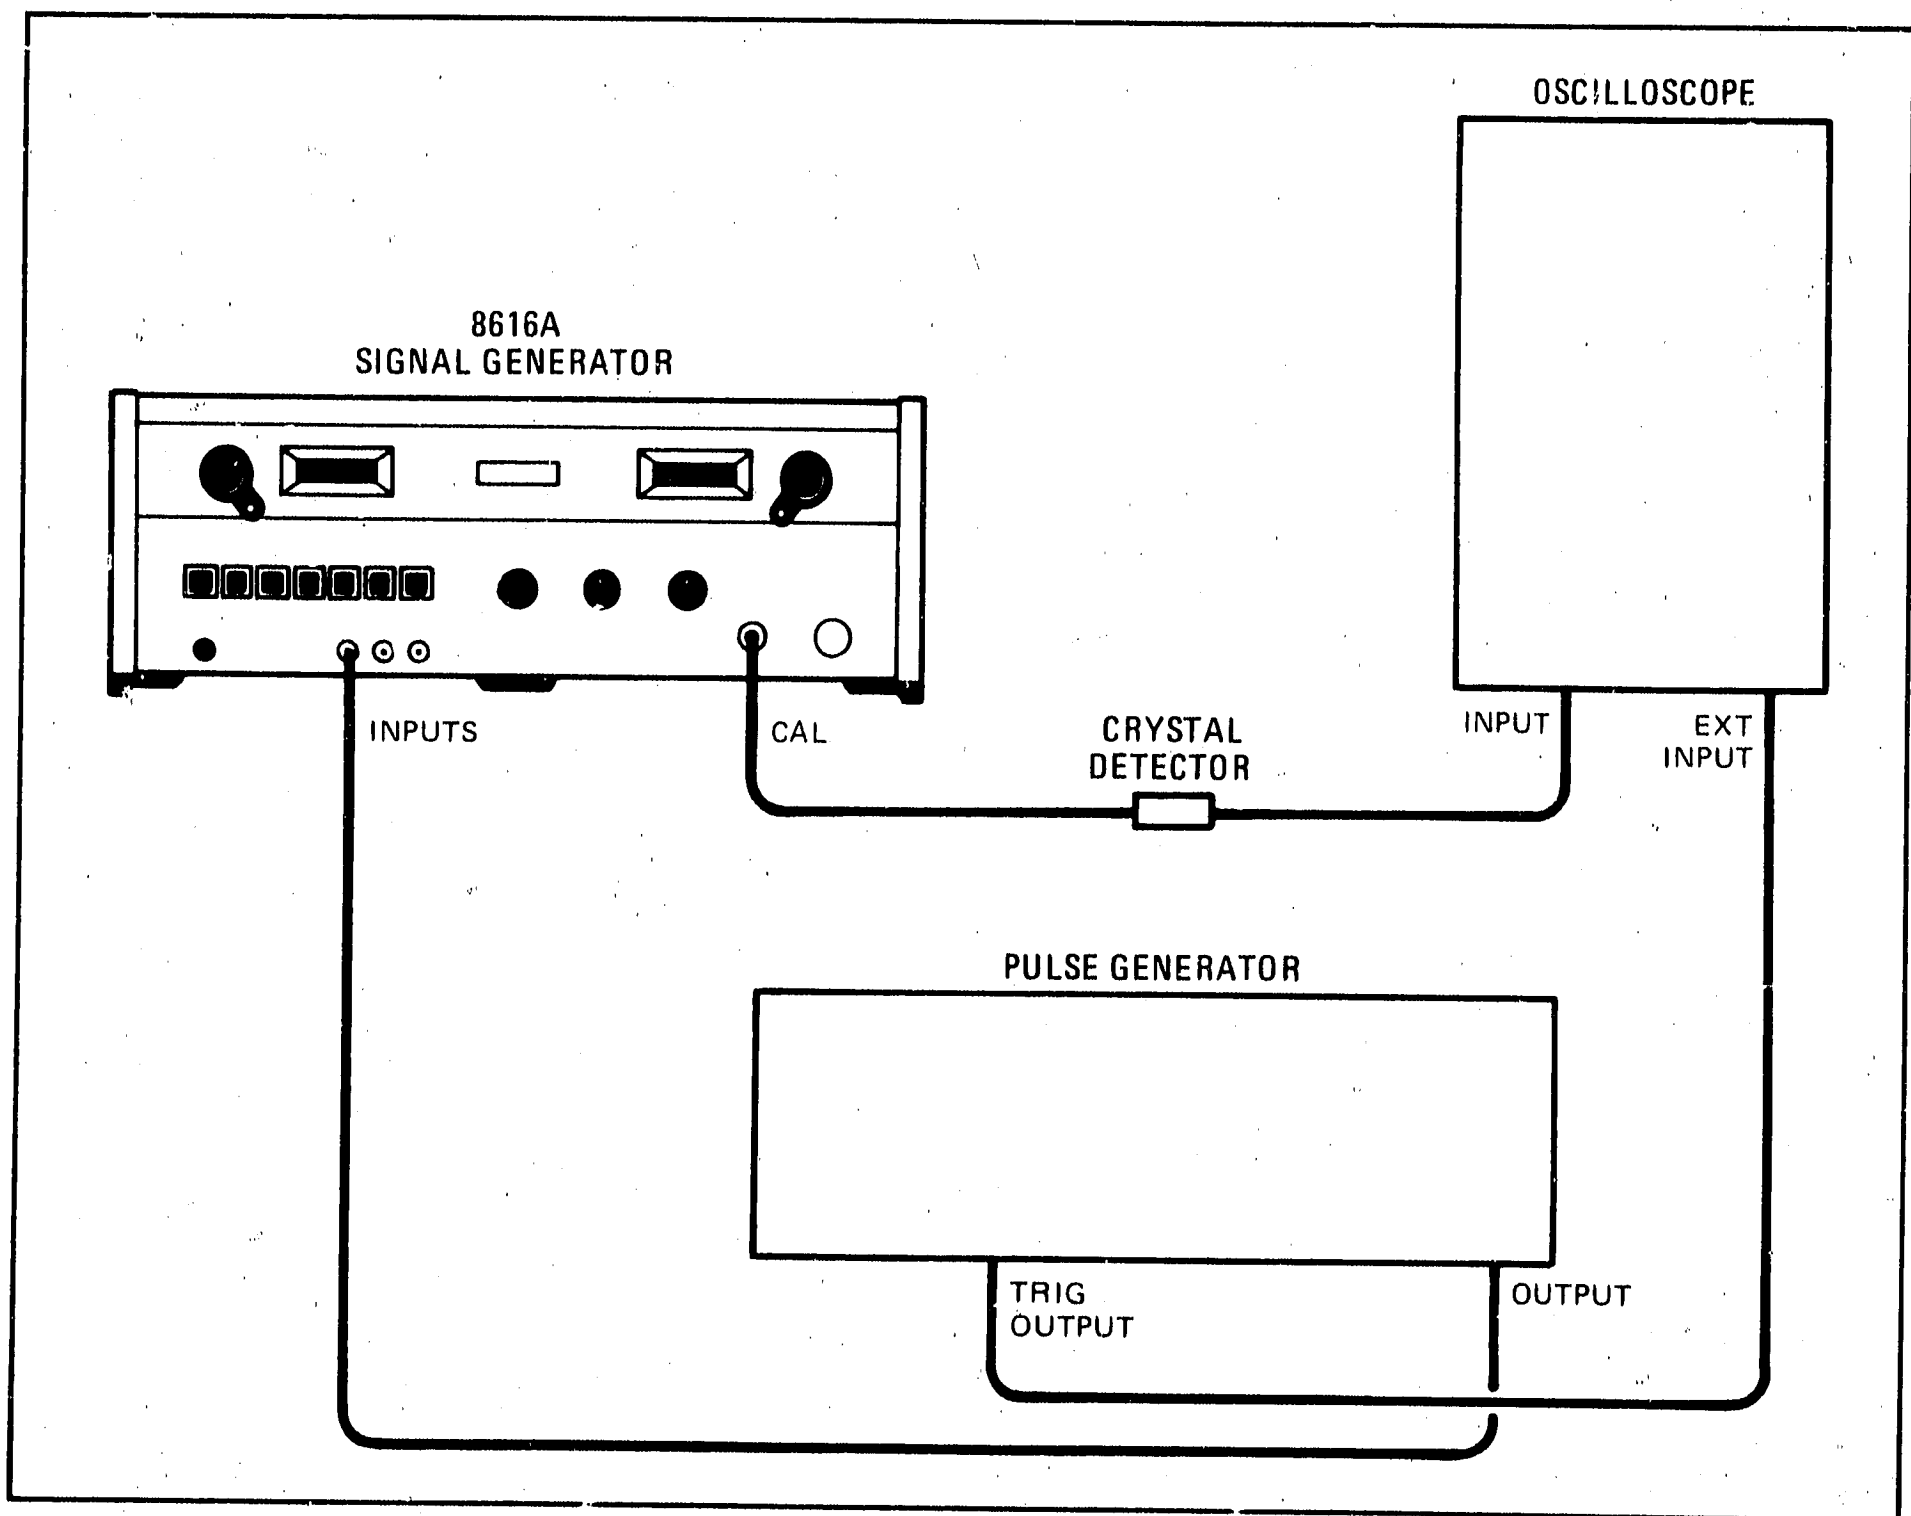

Figure 5-9. External Pulse Check
a. Connect instruments as shown in Figure 5-9.